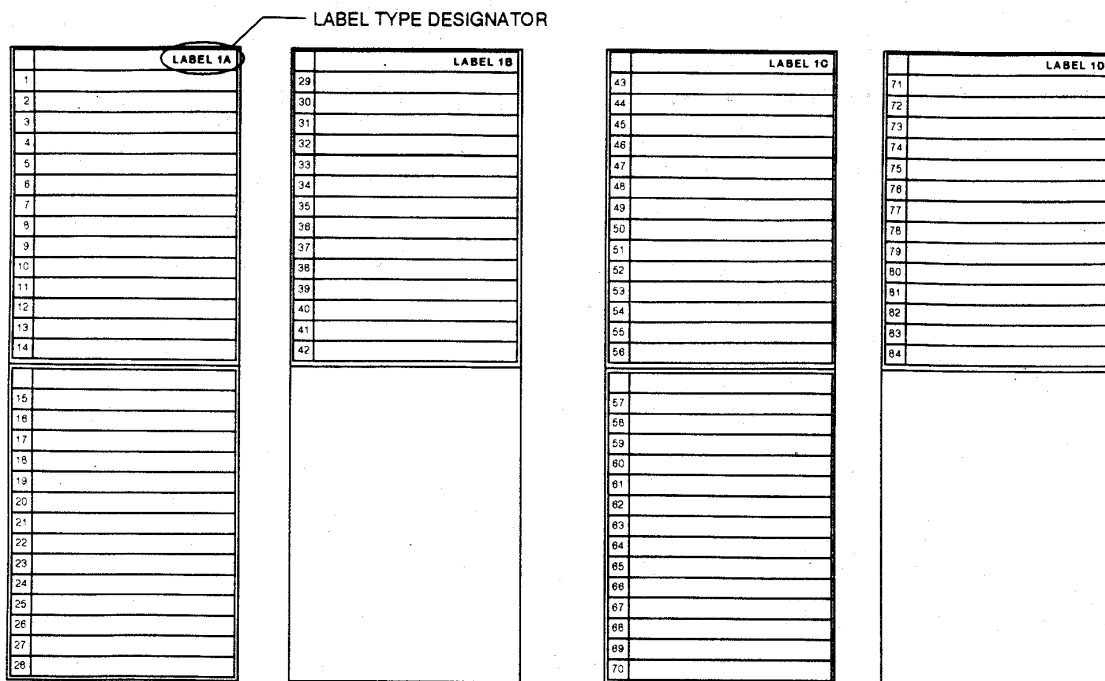

Figure 4. Label Set for 1–84 Circuit Numbering
- For sequential circuit numbering (1–84), use label sides marked LABEL 1A, LABEL 1B, LABEL 1C, and LABEL 1D (see Figure 4).